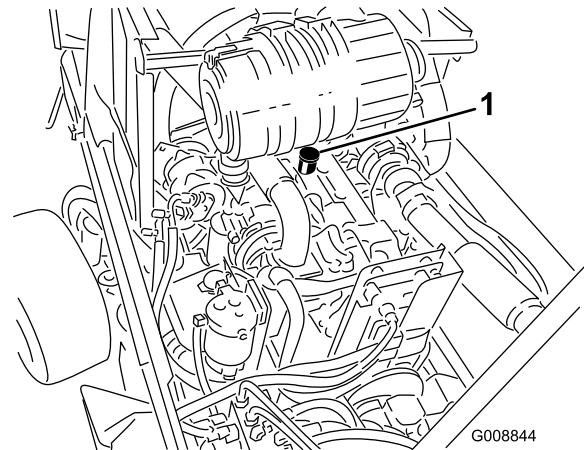

Figure 62
- If the oil is below the Low mark, remove the fill cap (Figure 62) and add oil until the level reaches the Full mark. **Do not overfill.**